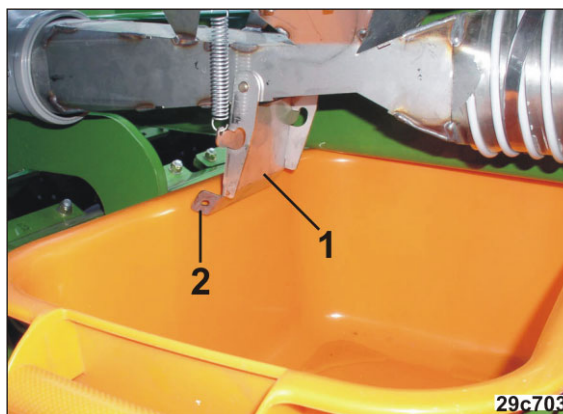

Fig. 126
6. Open the injector sluice flap (Fig. 126/1) on all seed dosing units.
Risk of contusions on opening and closing the injector sluice flap (Fig. 126/1)!
Hold the injector sluice flap only by the lug (Fig. 126/2), otherwise there is a danger of injury when the spring-loaded injector sluice flap snaps closed.
10. Close the injector sluice flaps (Fig. 126/1) with special care (danger of crushing, see danger notice).
12. Open the injector sluice flap(s) (Fig. 126/1).
17. Close the injector sluice flap(s) with special care (see danger notice [Fig. 126]).
5. Close the injector sluice flap(s) with special care (see danger notice [Fig. 126]).